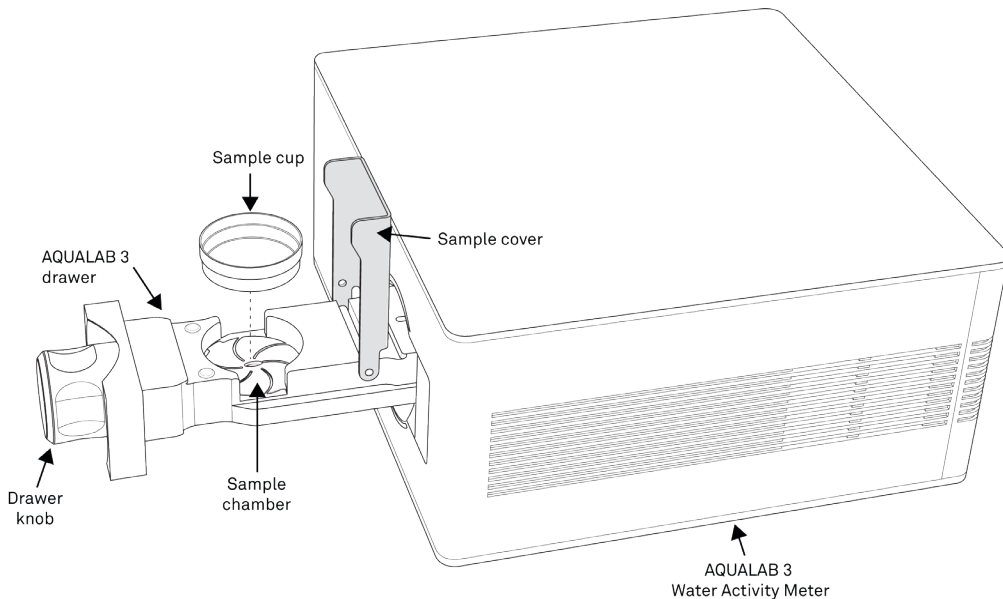

**Figure 64 Sample Cup**
- b. Fill the sample cup (Figure 64) enough to cover the bottom but no more than half full. Clean sample cup bottom, sides, and rim thoroughly with KIMWIPES® strips.